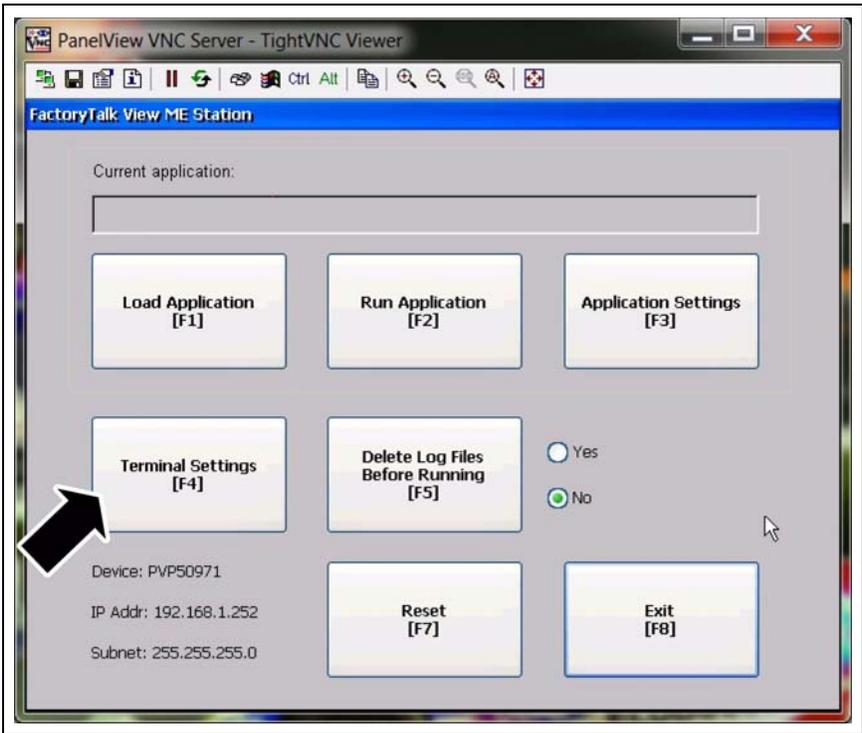

Figure 4A
- 1. Select Terminal Settings and press enter. (See Figure 4A.)